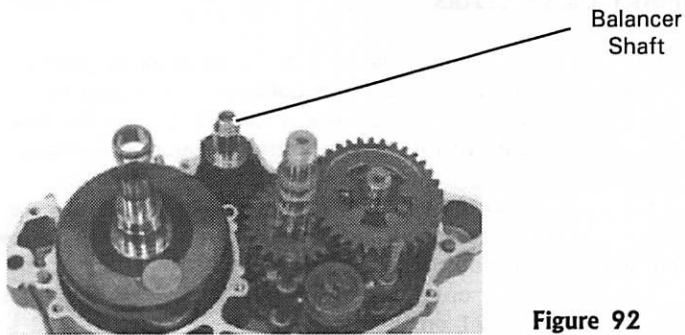

Figure 92
15. Lubricate both balancer bearing seats with Loctite Antiseize. Then install the balancer shaft (Figure 92) into the magneto side crankcase. No spacer shims are used.